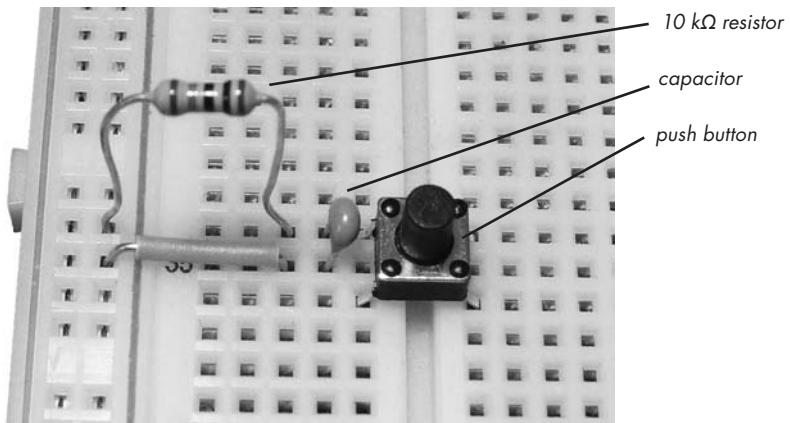

Figure 4-21: 10 $k\Omega$ resistor, capacitor, and push button
2. Turn the breadboard 90 degrees counterclockwise and insert the 10 k Ω resistor, a short link wire, and the capacitor, as shown in Figure 4-21.